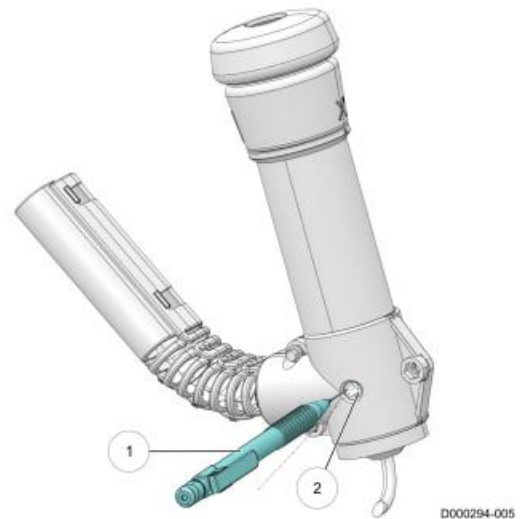

Figure 16. Clean the bleed holes
2. Refer to figure 16 for the bleed hole needle and bleed hole
2. Refer to figure 16 for the location of the Bleed Hole